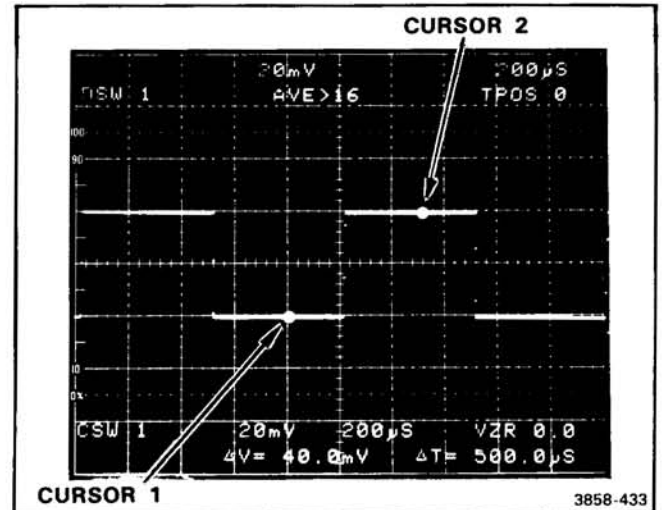

Figure 4-3. Check Vertical Linearity.
- c. Set CURSORS 1 and 2 as shown in Figure 4-3.